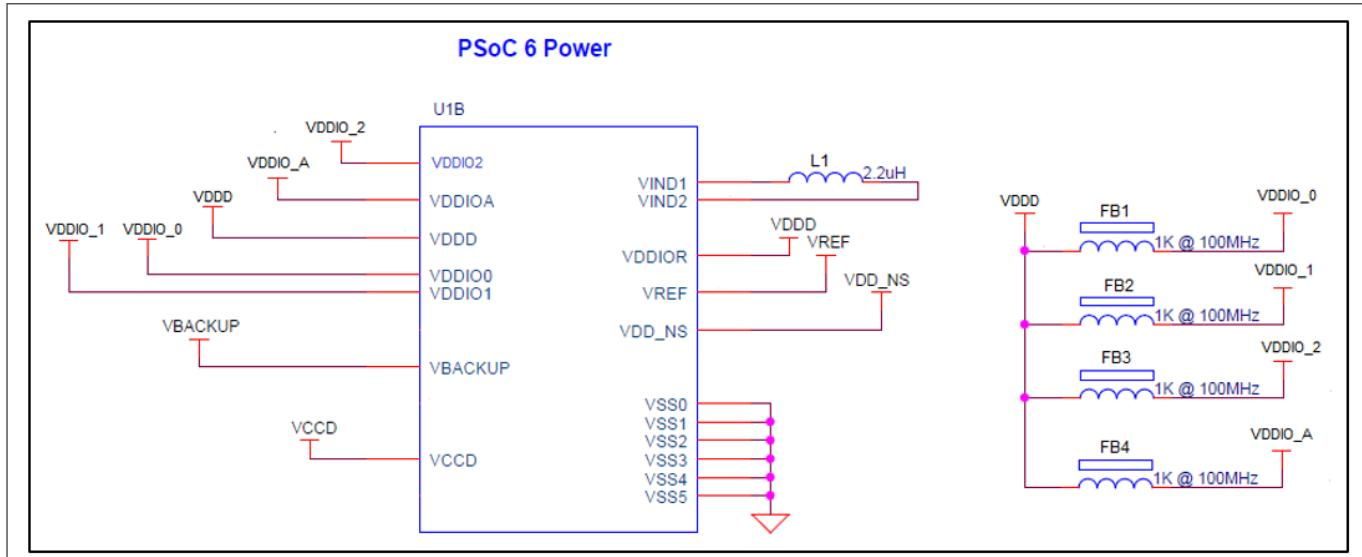

Figure 342 Externally isolated supply domains
- It is recommended to place all digital switching pins such as LEDs, I²C, UART, SPI, SMIF communication pins on the ports that are powered by a different power supply domain which is not shared with the CAPSENSE™ ports. Table 72 lists the ports, their supply domains, and recommendations for using these ports with CAPSENSE™. For more details, see the Errata section of the Device datasheet. A deviation from these guidelines might cause a noise due to level shift in raw count. For more details, see Raw counts show a level-shift or increased noise when GPIOs are toggled. To isolate the supply domains further, it is better to externally isolate them using ferrite beads as shown in Figure 342